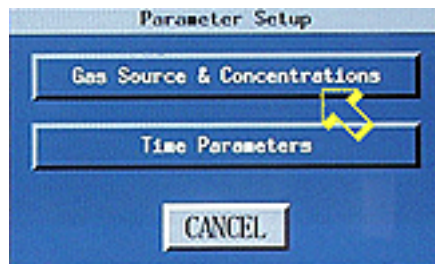

Figure 28
- 135 On the "Parameter Setup" sub-panel, click on "Gas Source & Concentrations." See the arrow in Figure 28.